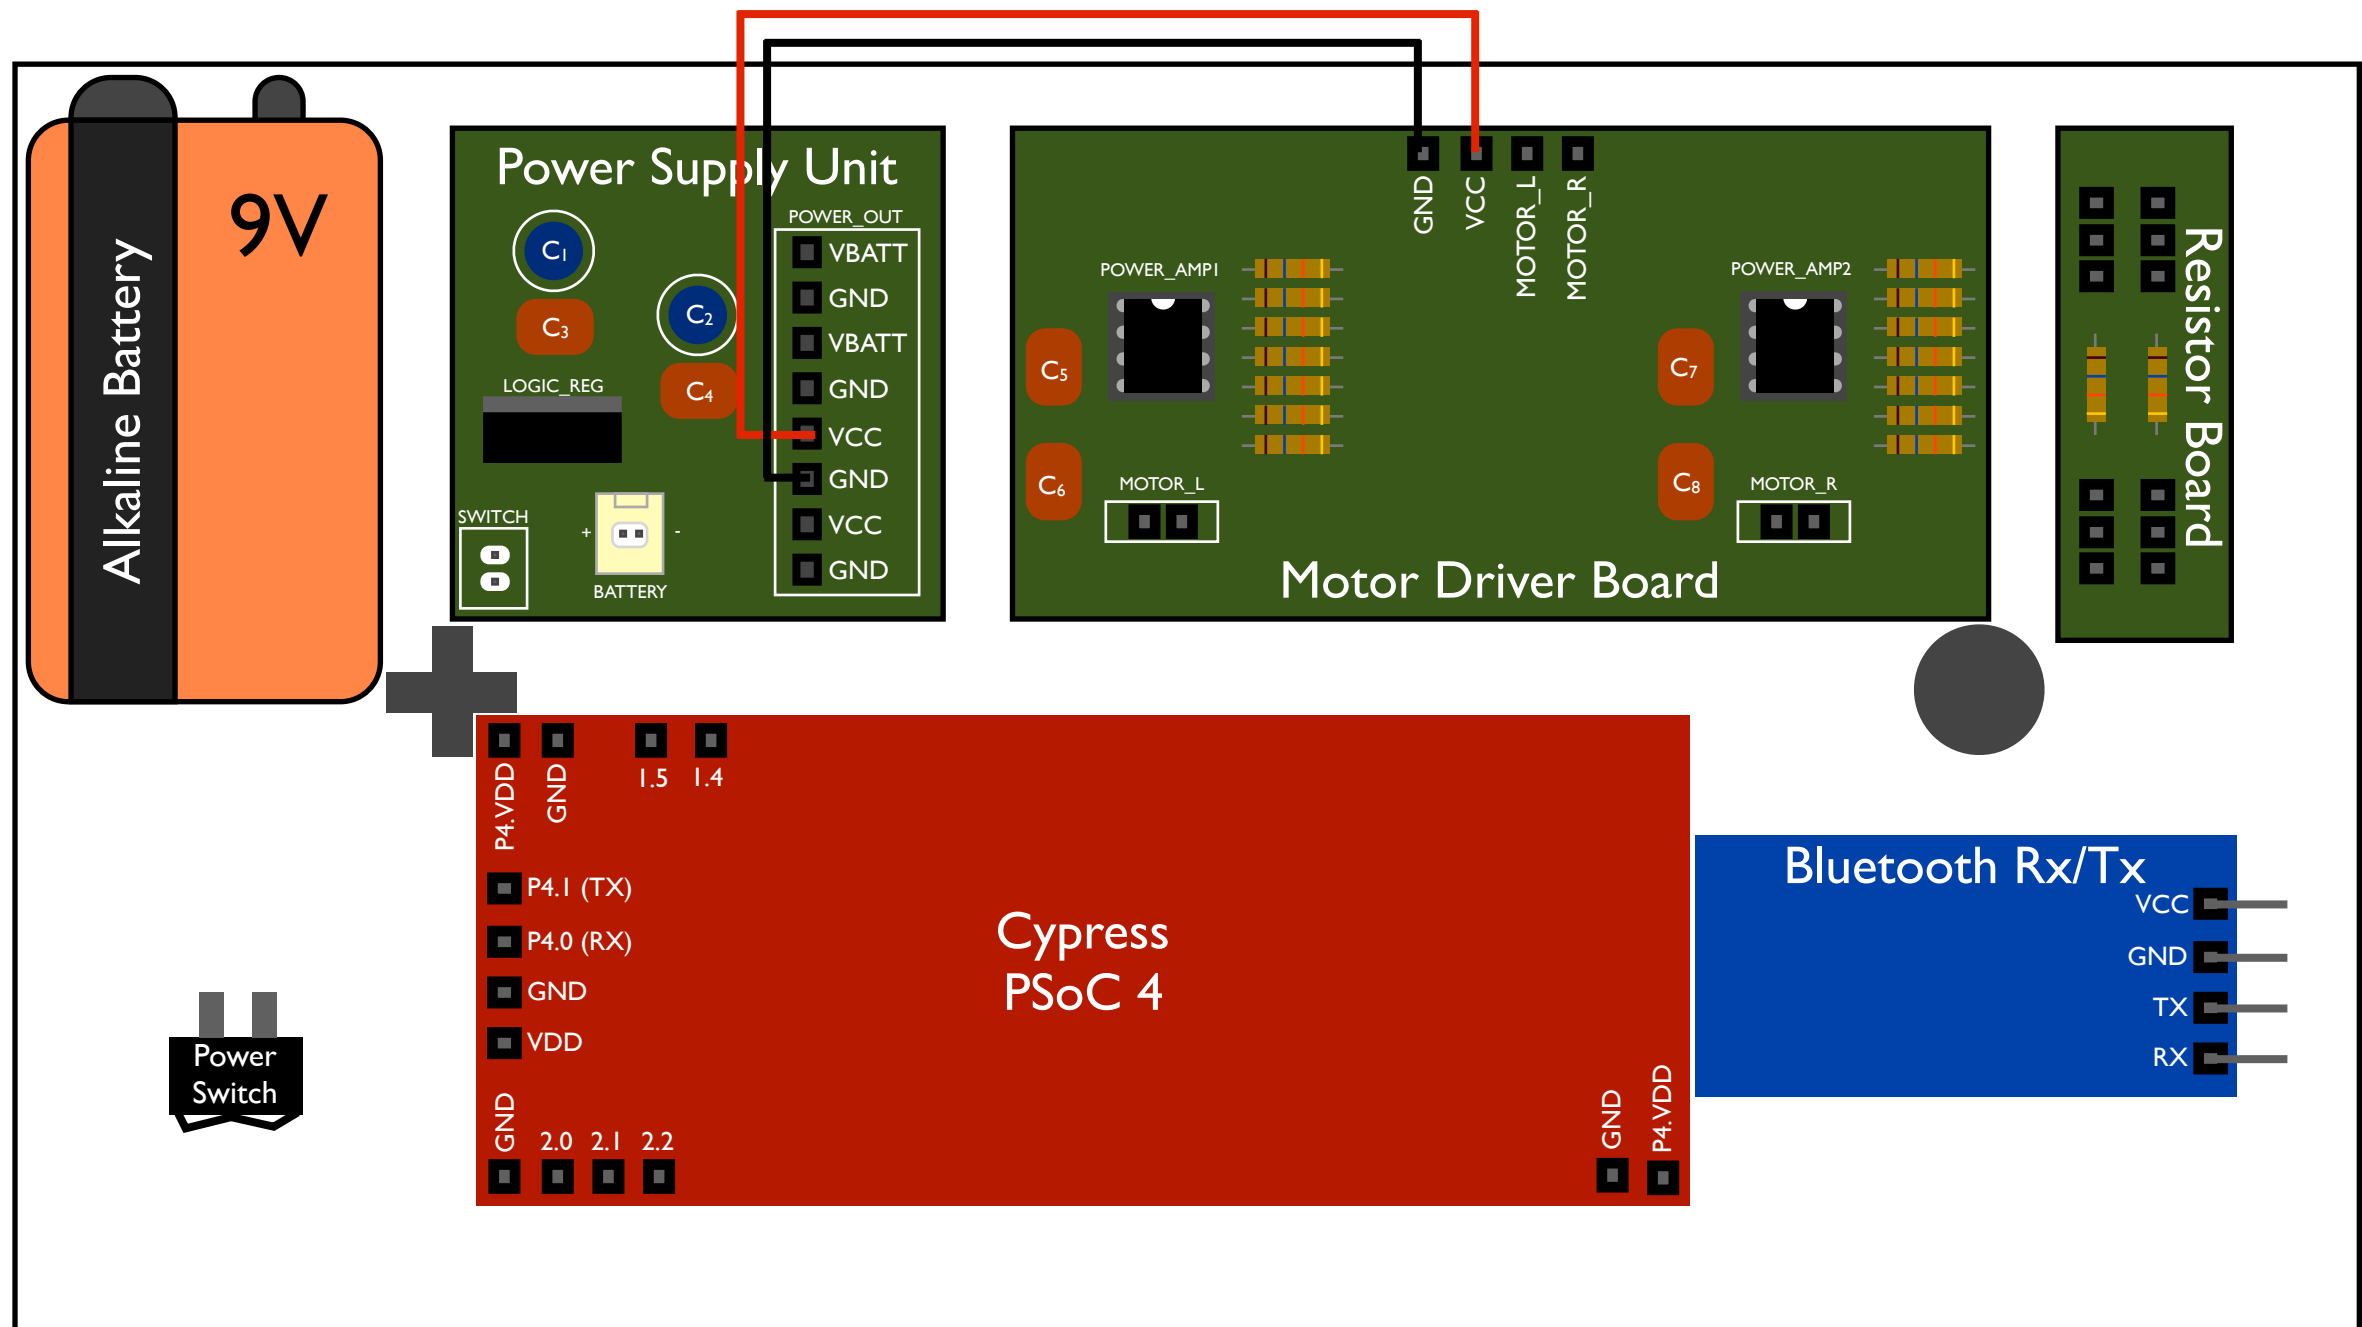

Figure 9. Connecting ground and power from PSU to Motor Driver Board using one red and one black jumper wire
9. Connect PSU to Motor Driver Board (Figure 9)